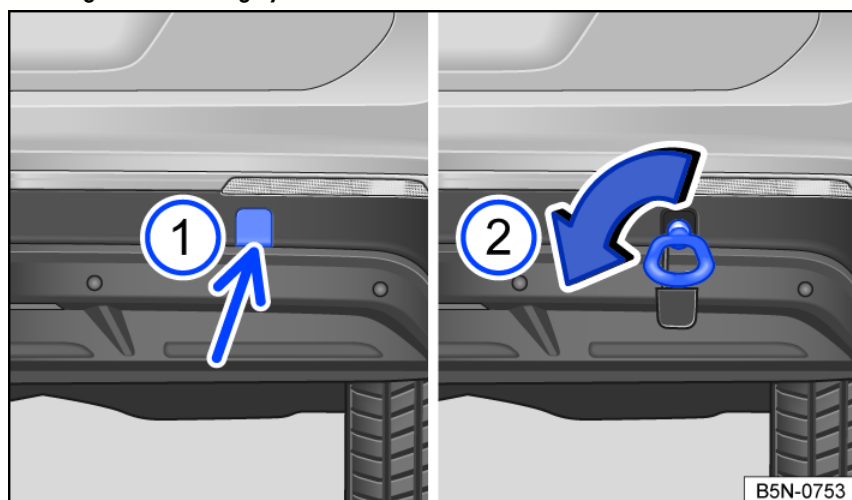

Fig. 182 In the right rear bumper: threaded towing eye.
- ① Cover in the bumper.
- ② Towing lug.
2. To release the lock on the cover, press on the lower section of the cover (arrow) *fig. 182* ①.
4. Rotate the towing eye counterclockwise and tighten as far as it will go to install it in the opening *fig. 182* ② ⇒ ⚠. Use a suitable object to tighten the towing eye completely and securely in the mount.